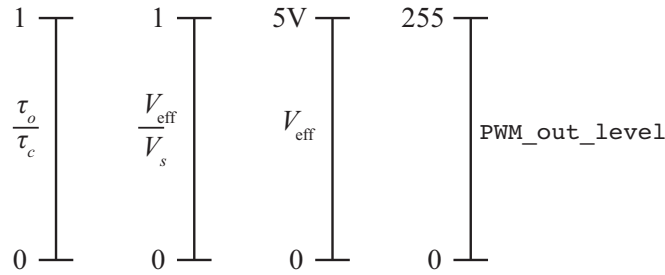

Figure 2: Scaling relationships for PWM parameters. `PWM_out_level` is the 8-bit value used as the second parameter to the `analogWrite` function.
The digital output voltage of an Arduino Uno is either 0 V or 5 V. Thus, in Equation (1), $V_s = 5$ V. The PWM output level specified with the `analogWrite` is an 8-bit value that corresponds to an effective voltage range of 0 to 5 V. Figure 2 depicts the relationships between the PWM output parameters. The quantities in Figure 2 are linearly related. Thus,